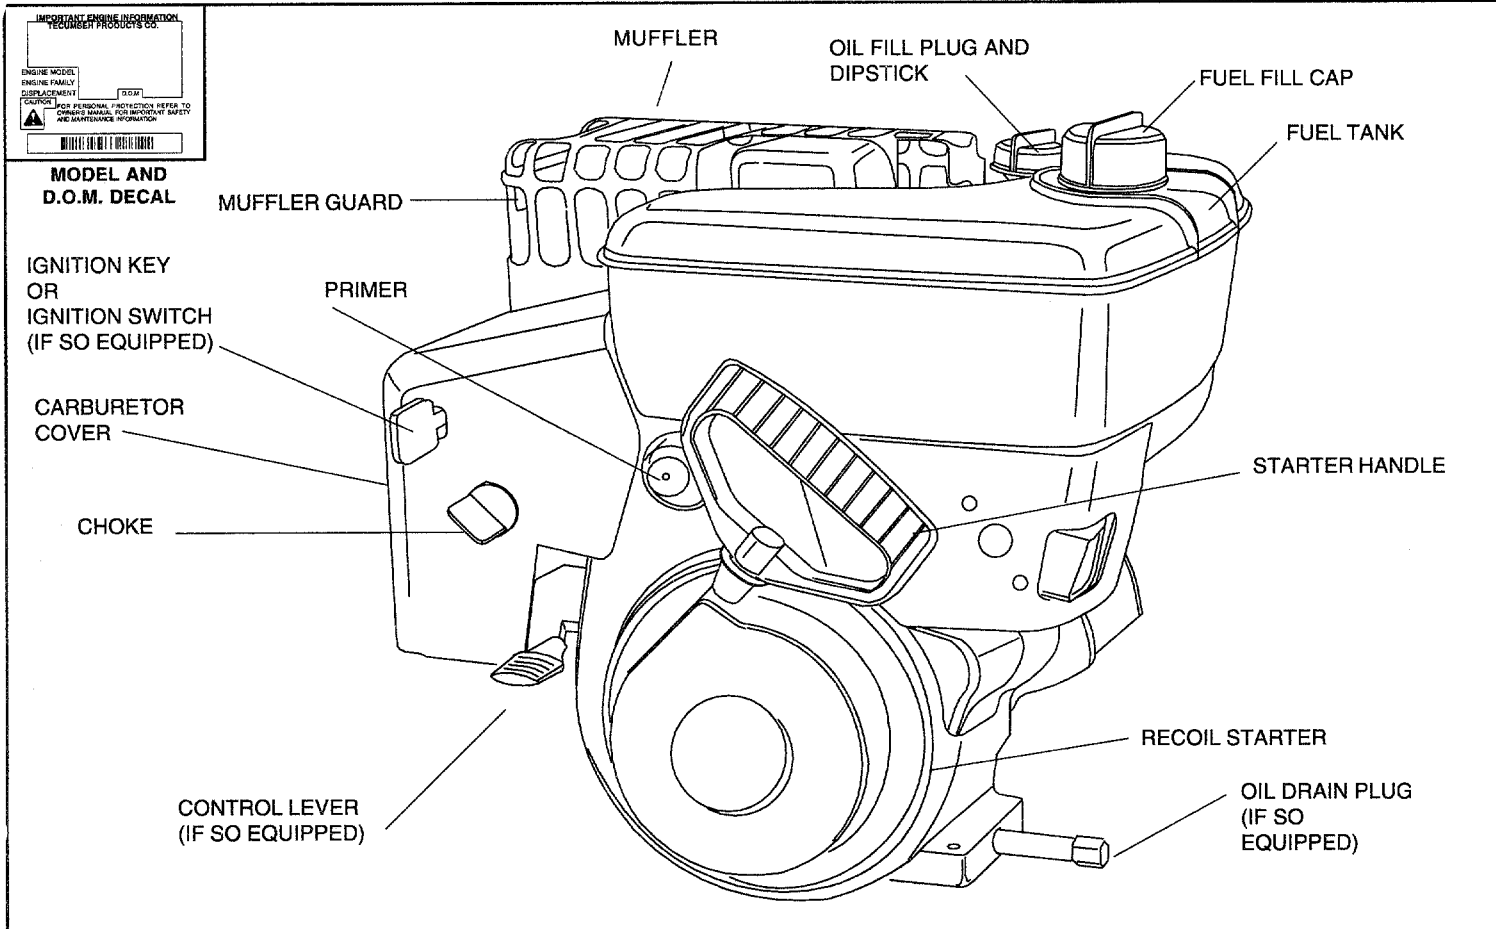

Figure 1
B. Clean area around oil fill plug (see Figure 1).
- Be sure spark plug wire is attached to spark plug (see Figure 1).
- Ignition key (if so equipped see Figure 2) is inserted into ignition keyslot in carburetor cover (see Figure 1).
① RECOIL STARTER (see Figure 1):
- D. Grasp starter handle (see Figure 1) and pull rope out, slowly, until it pulls slightly harder. Let rope rewind slowly. Then pull rope with a rapid full arm stroke. Let rope return to starter slowly.